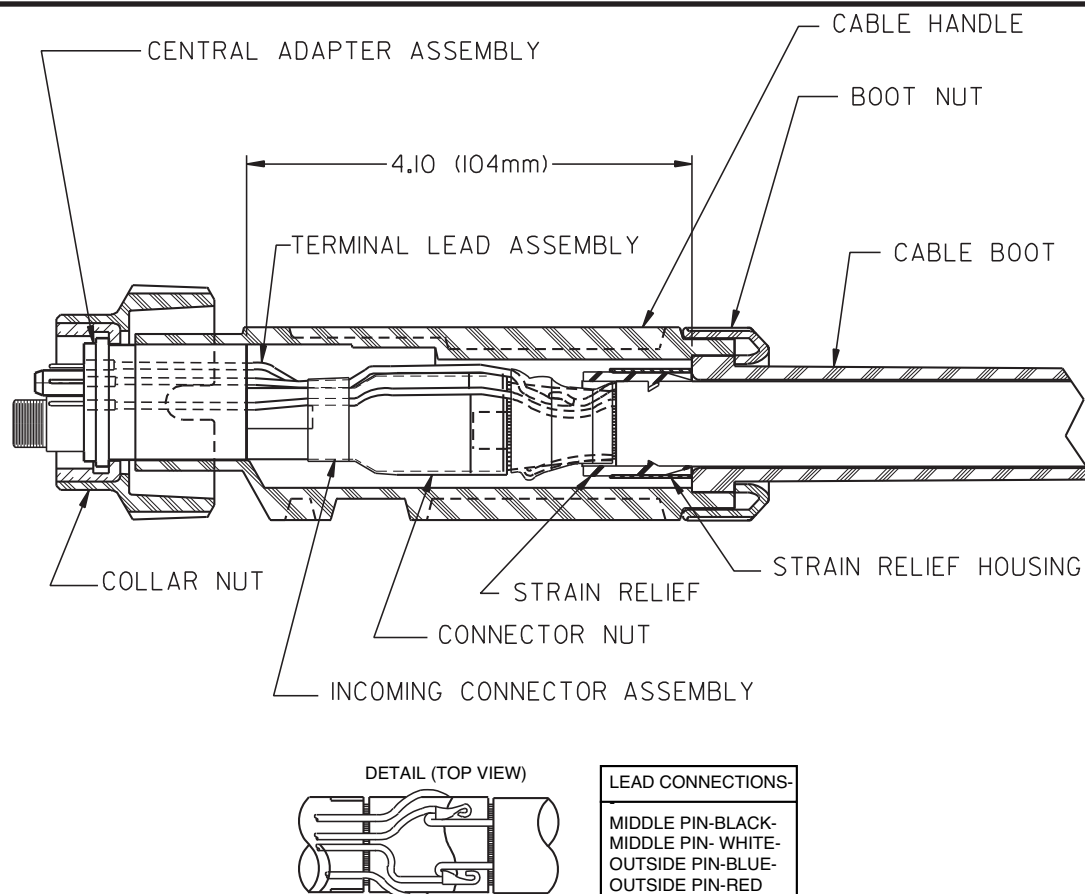

Figure E.7
WIRE FEEDER END REPAIR (K575 AND K1723) (See Figure E.7).
- j) Position the strain relief as shown in Figure E.7. Lock the strain relief in place by sliding the strain relief housing over the strain relief. On older cables install the cable clamp on the cable jacket within 1/8" (3.2mm) from the end of the jacket and tighten.